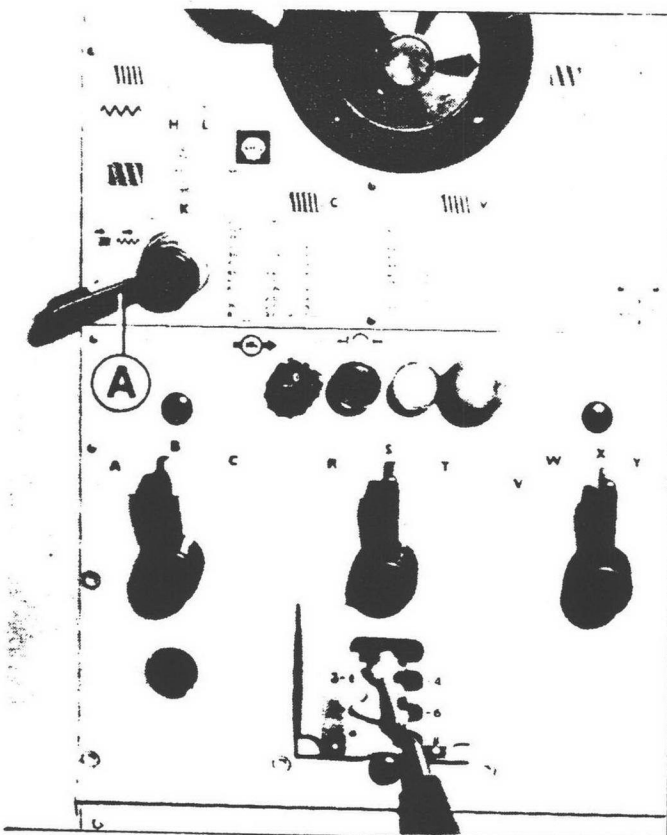

Fig. 12
THREAD AND FEED SELECTION – Fig. 12
All threads and feeds directly available from the gearbox are given on the data plate fitted at the front of the headstock, with the settings of control levers shown in Fig. 12.
1. Push-pull knob (D) selects power surfacing or sliding feeds; pull out for sliding, push in for surfacing operation.
2. Lever (E) is moved up for power feed engagement, down for manual operation.
3. Lever (F) is pressed down to engage leadscrew nut for screw cutting.
Use headstock lever (A) of Fig. 12 for reversing feed; and, left-hand screw cutting.